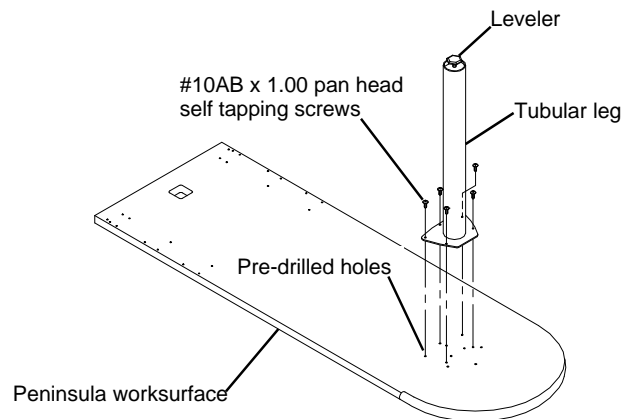

Figure 5
7. Attach the **Tubular Leg** to the worksurface. Align the holes in the mounting plate with the appropriate in the worksurface and secure using the five #10AB x 1.00" Pan head self tapping screws provided. See **Figure 5**.